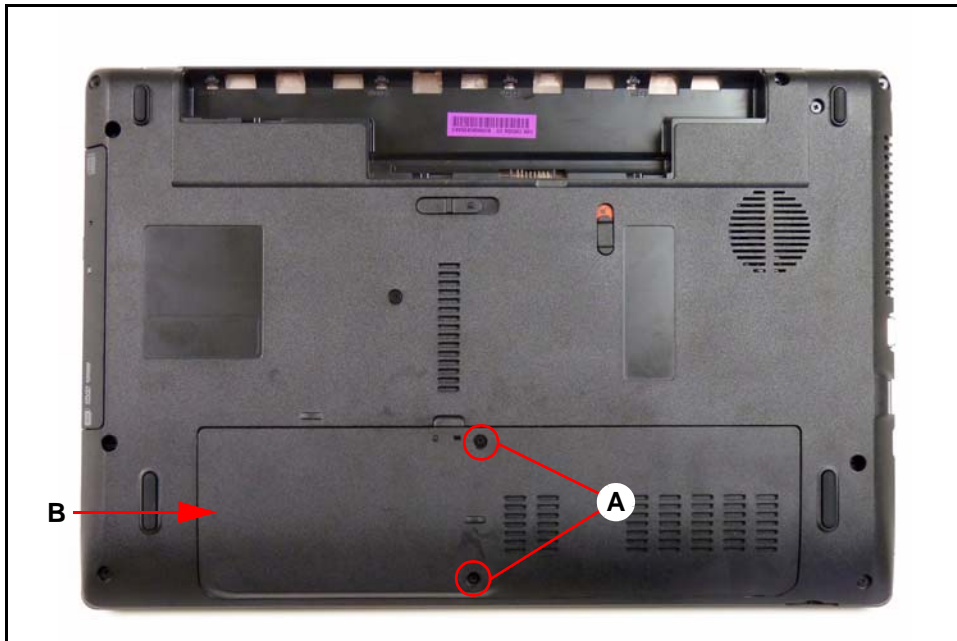

Figure 3-9. Base Door
1. Locate base door (B) on lower cover. (Figure 3-9)
2. Remove two (2) screws (A). (Figure 3-9)
1. Insert door flanges into slots (B) on lower cover. (Figure 3-9)
2. Secure door to lower cover with two (2) screws (A). (Figure 3-9)